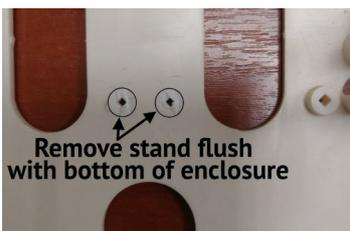
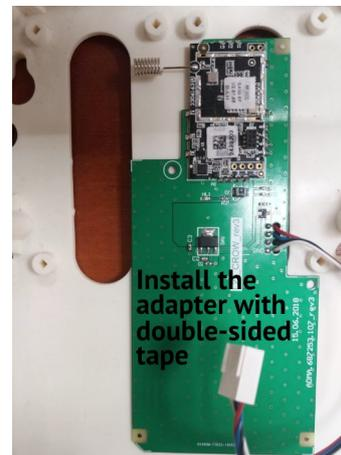

Figure 28. Preparing the device housing for the adapter “L25_Crow_rev3”
Figure 29. Adapter «L25_Crow_rev3» in the device housing
- “**L25_CROW_rev3**” Adapter – prepare a place for adapter (Figure 28) then install the adapter with double-sided tape (Figure 29);